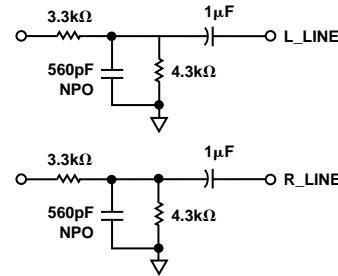
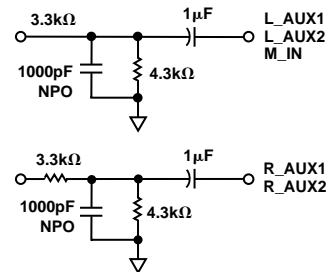

Figure 27. 2 V rms Line-Level Input Circuit for LINE Inputs
Figure 28. 2 V rms Line-Level Input Circuit for M_IN and AUX Inputs
The AD1845 Stereo Codec has been designed to require a minimum of external circuitry. The recommended circuits are shown in Figures 27 through 35.
A circuit for 2 V rms mono, line-level inputs and auxiliaries is shown in Figure 27 and Figure 28. Note that this is a divide-by-two resistive dividers considering the codec input impedance. The input resistor and 560 pF (1000 pF) capacitor provides the single-pole of antialias filtering required for the ADCs. If line-level inputs are already at the 1 V rms levels expected by the AD1845, the resistors in parallel with the 560 pF (1000 pF) capacitors can be omitted. If the application does not route the AUX2 inputs to the ADCs, then no antialias filtering is required (only the 1 μ F ac coupling capacitor).
- The AD1845 requires the input antialiasing filters for the ADCs (refer to Figures 27 and 28). The CS4231 can use the same filters with no degradation in performance. For compatibility it is suggested that the filters be added.